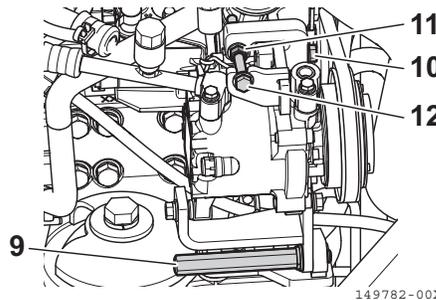

Fig. 8-56
- 1. Loosen the compressor mounting bolts (Fig. 8-56, 9) and (Fig. 8-56, 10).
- 2. Loosen the adjuster set nut (Fig. 8-56, 11).
- 3. Turning the adjuster bolt (Fig. 8-56, 12) clockwise tensions the belt, and turning it counterclockwise loosens the belt.
- 4. Adjust the belt to the adequate tension, and tighten the compressor mounting bolts (Fig. 8-56, 9) and (Fig. 8-56, 10).
- 5. Tighten the adjuster set nut (Fig. 8-56, 11).